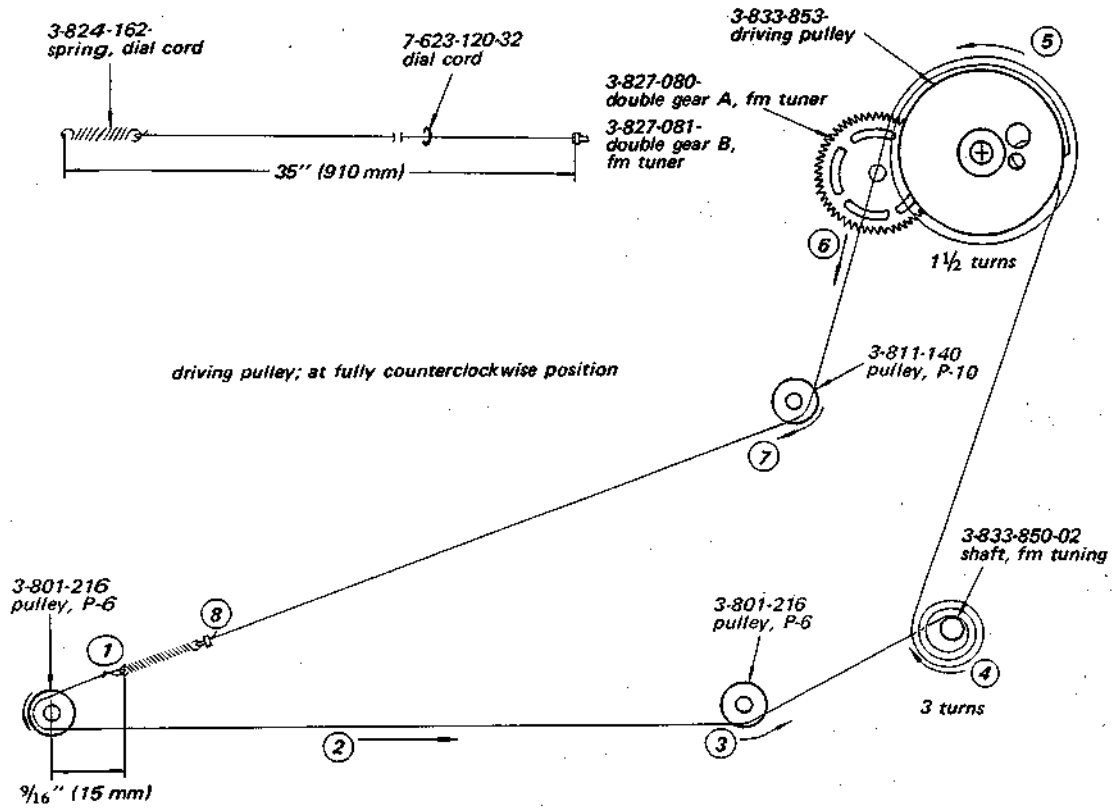

Fig. 2-20
5. Rotate the driving pulley for fm band fully counterclockwise to its minimum capacitance position as shown in Fig. 2-20.